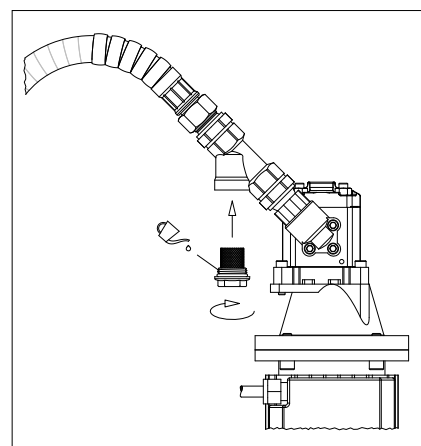

fig. 9
- (Fig. 9) Lubricate with the operating the plug thread and the O-ring, insert the mesh basket in the plug, then screw the assembly in